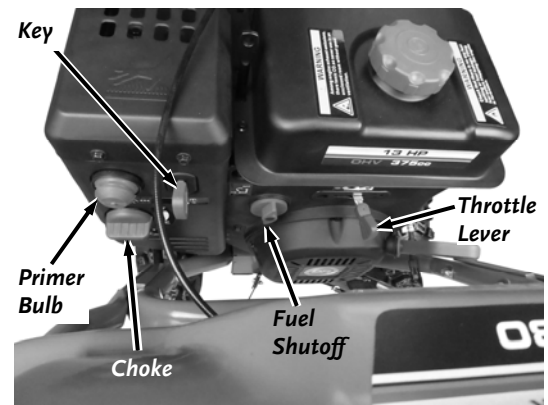

Figure 29
1. Insert the Key into the Key Slot (**Figure 29**).
1. Pull the Key out of the Key Slot to stop the Engine (**Figure 29**).